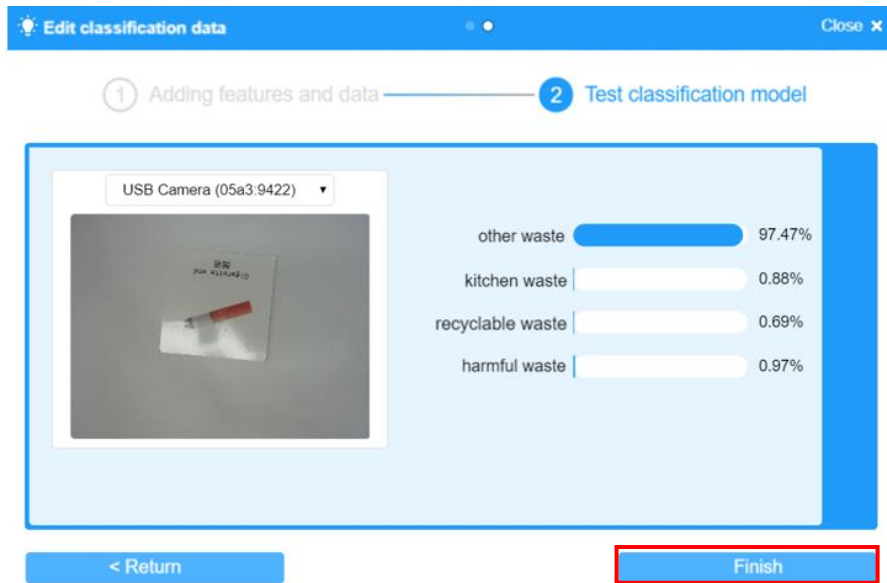

Figure 3.6 Clicking "Finish"
Step 6: Click "Finish" to save the file, as shown in Figure 3.6. Then, you can start writing the program.